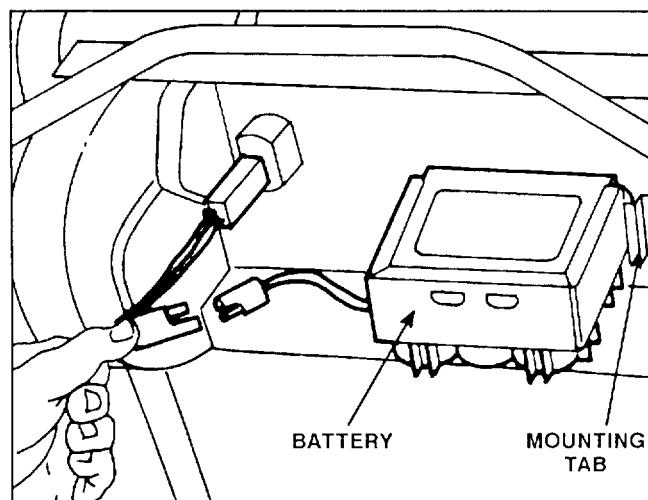

Figure 2
3. CHARGE BATTERY (electric start model only) – Refer to Charging Battery, page 11. Slide battery, decal side up, between mounting tabs on back of control panel and connect wires (Fig. 2). Insert key into switch when ready to start engine.